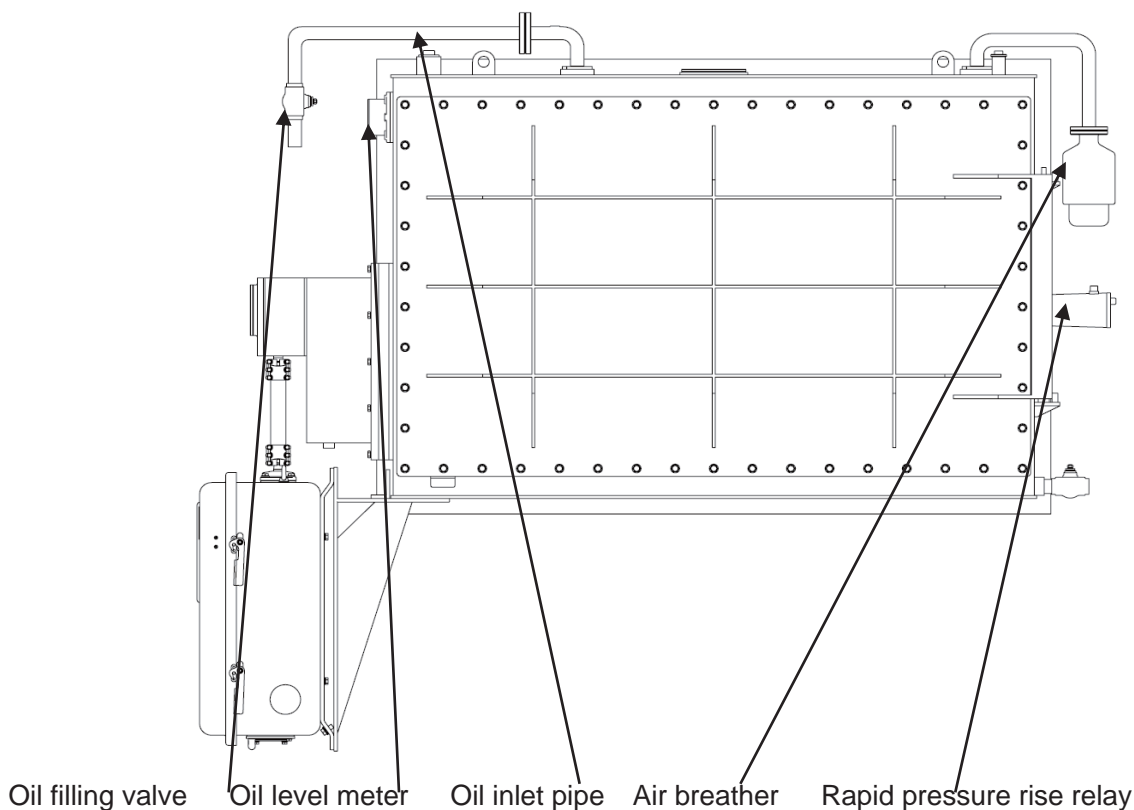

Figure 16
9.2.1 Oil filling under atmospheric pressure. When the transformer is not equipped with a conservator (N₂ blanket), oil filling is performed directly through the tap-changer oil inlet pipe through the oil conservator valve (See Figure 16).